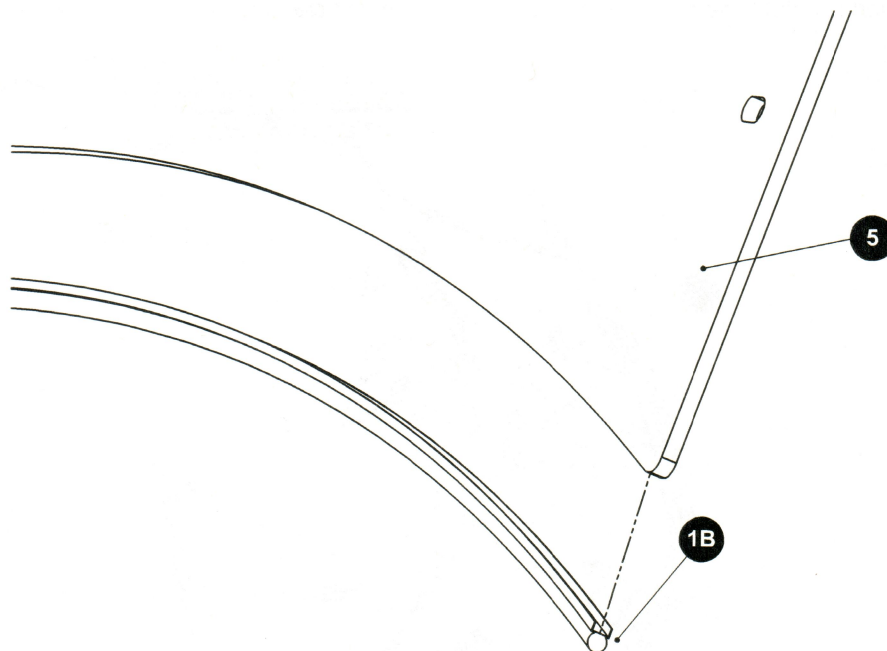

Fig. 3
2. Install lower seal (1B) to windshield bottom, as shown in Fig. 3.